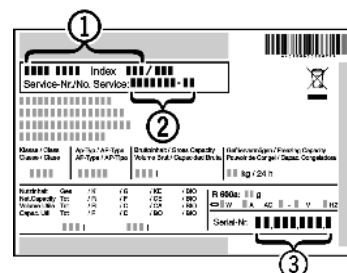

Fig. 8
- ▶ Read the appliance designation *Fig. 8 (1)*, service No. *Fig. 8 (2)* and serial No. *Fig. 8 (3)* off the type plate located inside the appliance on the left-hand side.
- ▶ Notify the customer service, specifying the fault, appliance designation *Fig. 8 (1)*, service No. *Fig. 8 (2)* and serial No. *Fig. 8 (3)*.